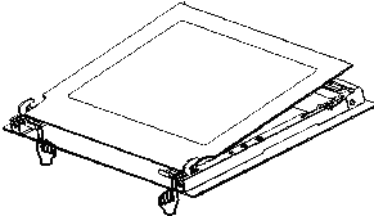

Figure 12
1. To insert the inside glass into fixed holder and push it to the fixed position, as shown in figure 12.